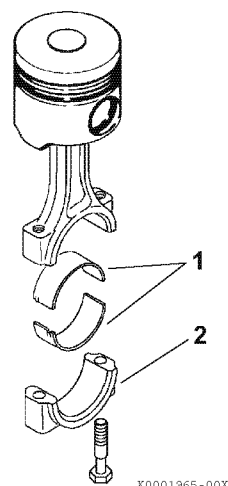

Figure 6-95
5. Install the bearing inserts (**Figure 6-95, (1)**) in the connecting rod and cap.
7. Apply a light coat of clean engine oil to the rod cap bolts. Install the connecting rod cap (**Figure 6-95, (2)**). Tighten the connecting rod bolts to the specified torque in two stages (1/2 then full torque). See *Special Torque Chart* on page 6-11.